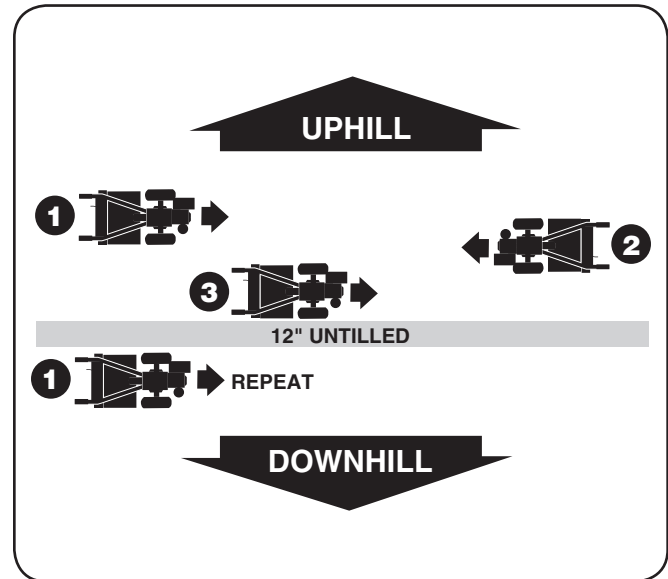

Figure 5-8
1. To create a terrace, start at the top of the slope and work down. Go back and forth across the first row as shown in Figure 5-8.